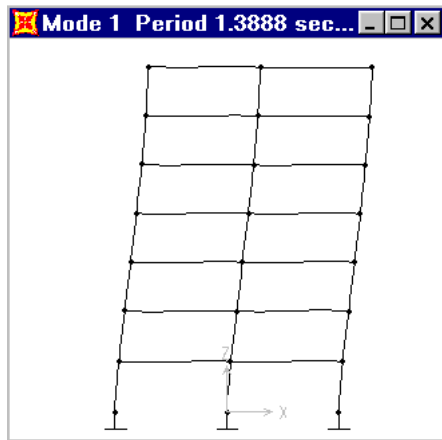

Figure 2-1 Mode 1 Shape and Period
- From the **Display** menu select **Show Mode Shape** and select the mode you are interested in. You may also want to select the **Wire Shadow** option so you can see what the undeformed shape looks like. See Figures 2-1 through 2-4 and note that the mode number and period is shown as the title of the window.